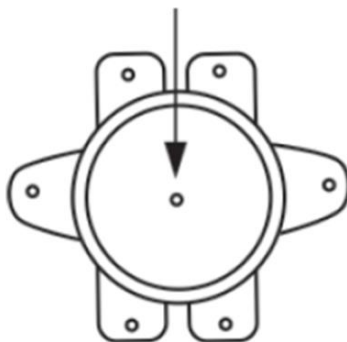

Fig 6
- Press the button located in the center of the thermal switch (round shape, near the heating element) until you hear a click, see Fig. 6;